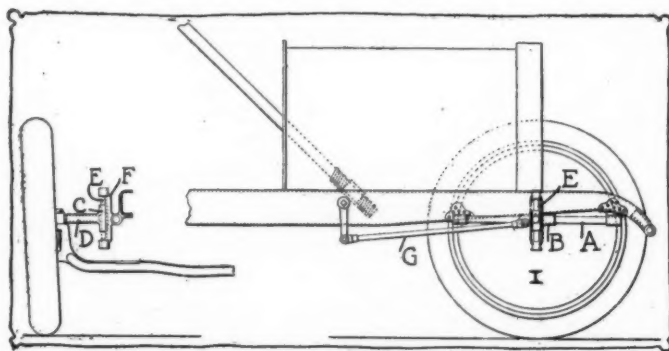

Fig. 5—Heilmann truck steering system applied to car
**PROPOSED Steering System**—In connection with the Heilmann truck wheel, which was illustrated and described in part in THE AUTOMOBILE of October 31, a steering system has been proposed which has the advantage over the customary method that the leverage with which force is applied grows larger instead of smaller the more the wheels are turned. Also, the steering rod moves in one plane, so that ball joints become unnecessary. A guide rod, A in Fig. 5, is secured to the frame reach. The sleeve B is mounted to slide upon it and forms a part of the knuckle F with pin E, upon which there is mounted the sleeve C with hollow lever arm D adapted to telescope upon a pin integral with the steering pivot and wheel spindle. Sleeve C can slide up and down on pin E in conformity with the action of the vehicle springs. The steering gear control is the usual one and the steering rod G attacks the sleeve B, moving it forward or backward on the rod A. The usual tie-rod connection from one wheel to the other is contemplated but is not shown in the drawing. The type of truck for which this steering system was specially designed has the spring suspension built into the wheels.—From *Bulletin Officiel*, September.